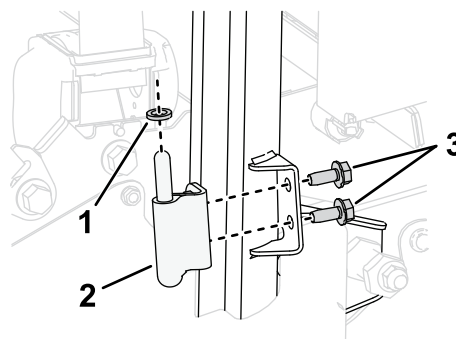

Figure 7
1. Loosely secure the lower hinge to the bracket on the ROPS tube using 2 screws (5/16 x 3/4 inch) as shown in Figure 7.